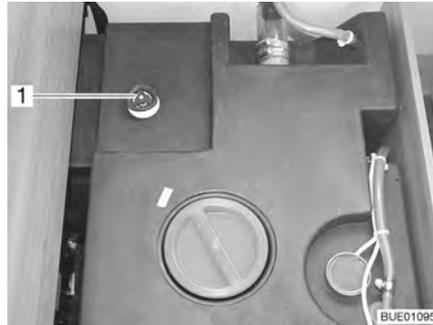

Fig. 168 Water tank with handle
- Turn the handle (Fig. 168,1) on the water tank in an anticlockwise direction as far as possible beyond the resistance to fully open the drainage opening.